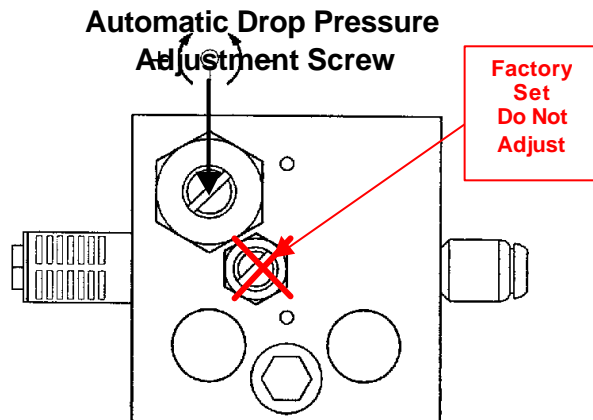

Figure 2
2. The automatic drop pressure adjustment screw is shown below (Figure 2). With the regulation screw in the minimum pressure position (nut level, 12mm screw inside), the automatic drop pressure will be adjusted to approximately 33psi.